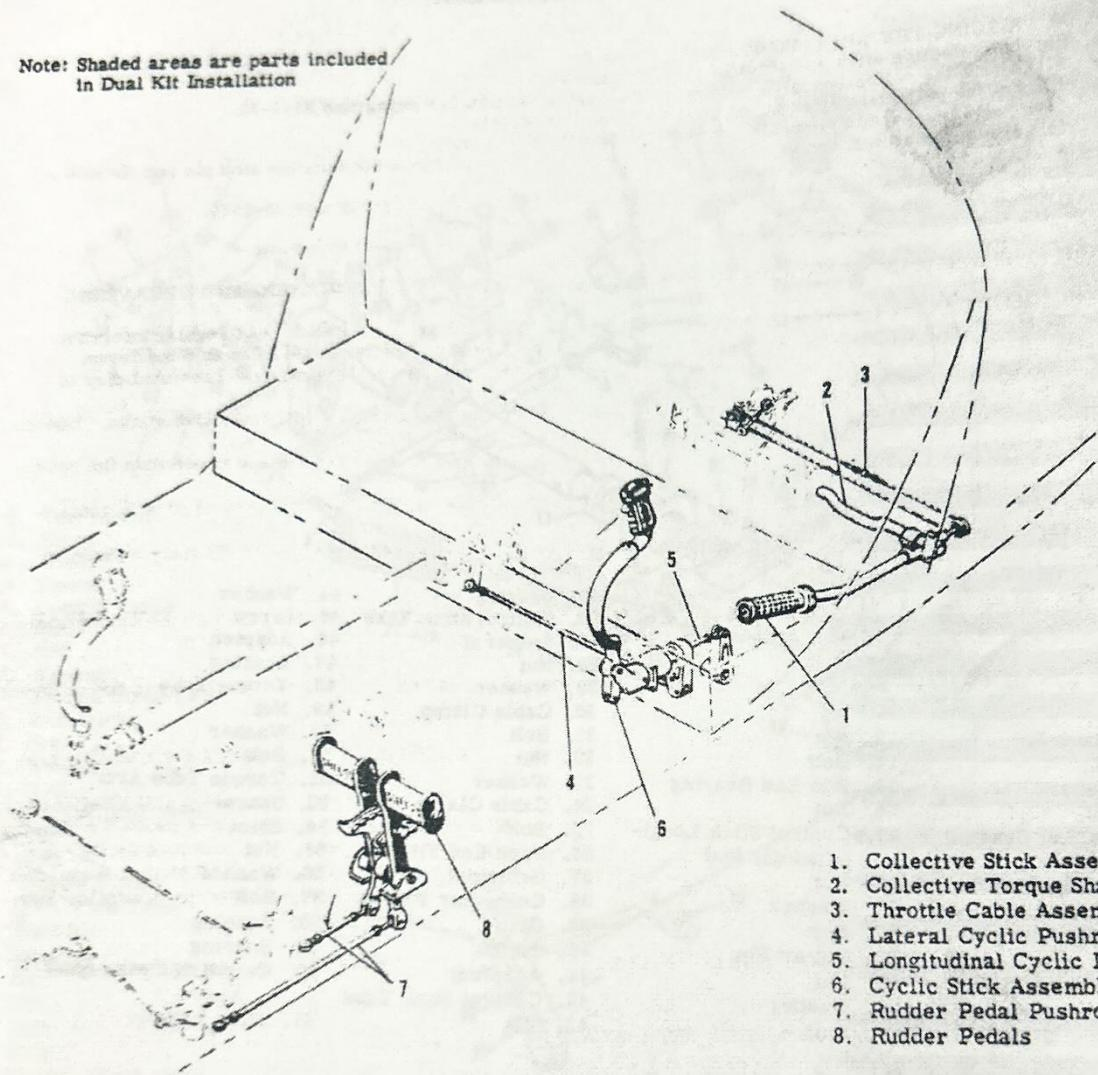

Figure 30-301-1. Dual Control Kit, Four-Place Configuration
30-301-1. DUAL CONTROL KIT INSTALLATION, FOUR-PLACE CONFIGURATION. (See figure 30-301-1.)
30-301-10. REMOVAL OF DUAL CONTROL KIT INSTALLATION. (See figure 30-301-1.)
- (1) Install the dual control shaft. Check that the lubrication fitting in the bearing block is facing outward when the block is installed on the control shaft.
- (2) Install torque block base. Secure with bolts, washers and nuts. Install boot assembly on stick and place the control stick assembly in position against the torque block base. Place the torque block cap over the stick assembly and install the four attaching bolts.
- (3) Install the locking stud and tighten the four attaching bolts to 10-15 pound-inch torque value.
- (4) Safety the head of the locking stud to the adjacent bolt head with lockwire.
(5) Install the cable ball fittings in slot of control stick fitting, and throttle fitting assembly. Insert sleeve, washer and screws.
(6) Connect dual throttle cable assembly and adjust turnbarrel to provide a cable tension of 25 to 30 pounds. Turnbarrel must be located on top strand as shown in figure 30-301-1. Safety turnbarrel and screws with lockwire.
(7) Secure boot assembly to stick with lockwire. Secure boot assembly to firewall with plate and attach screws.